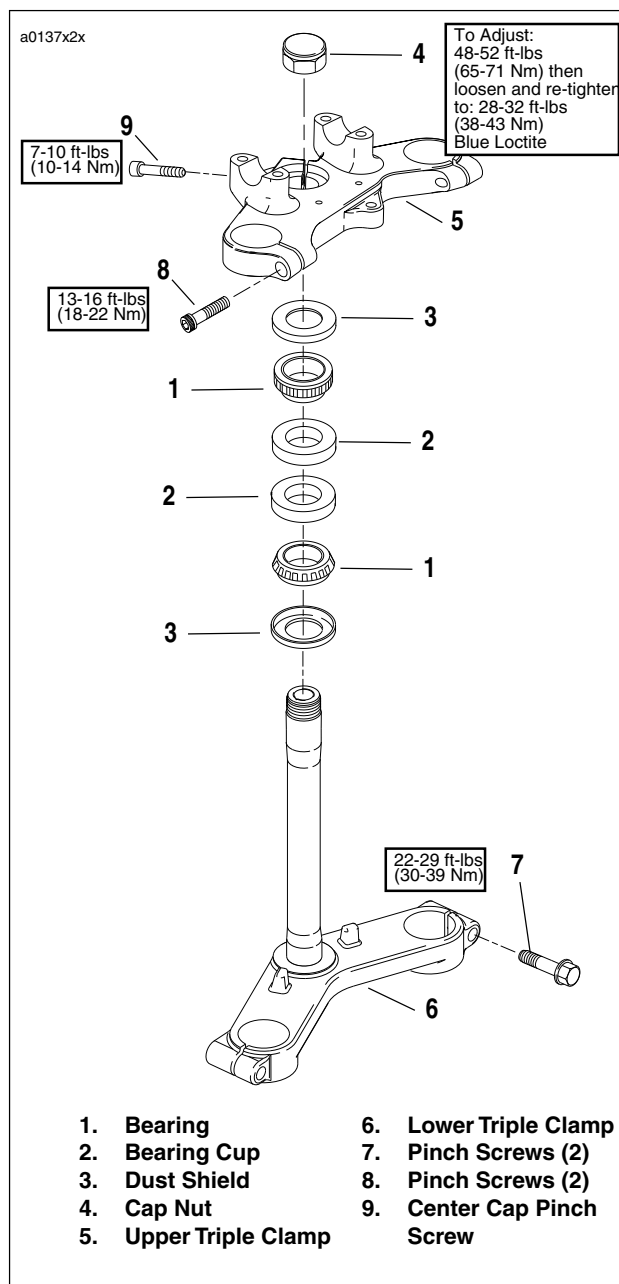

Figure 2-90. Fork Stem and Bracket Assembly
7. See Figure 2-90. Remove screw (9) and capnut (4).
8. Support lower triple clamp (6) and remove upper triple clamp (5).
9. Remove upper dust shield (3) and upper bearing (1).
11. Remove lower bearing (1) and lower dust shield (3) from lower triple clamp.
1. See Figure 2-90. Clean the dust shields (3), bearing cups (2), fork stem and lower triple clamp (6) and frame with solvent.
2. Carefully inspect bearing races and assemblies for pitting, scoring, wear and other damage. Replace damaged bearings (1) as a set (1, 2 and 3).
3. Check the fork stem and lower triple clamp (6) for damage. Replace if necessary.
6. See Figure 2-90. To adjust:
- a. Loosen both pinch screws (7) on lower triple clamp.
- b. Loosen center cap pinch screw (9) on upper triple clamp.
- c. Loosen cap nut (1), then tighten to 48-52 ft-lbs (65-71 Nm) to seat bearing. Loosen cap nut, apply **LOC-TITE THREADLOCKER 243 (Blue)** to threads of fork stem and retighten cap nut to 28-32 ft-lbs (38-43 Nm).
8. Tighten both lower triple clamp pinch screws (7) to 22-29 ft-lbs (30-39 Nm).
See Figure 2-90 for exhaust system assembly.